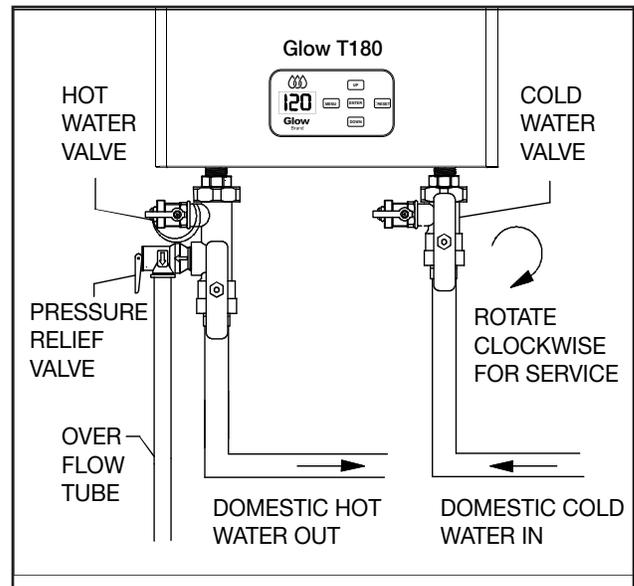

Figure 3.16 - Optional Service Kit
**!** An optional Tankless Water Heater Isolation Valve Kit (fig. 3.16) is intended for installation onto tankless water heater cold inlet and hot outlet connections. Each assembly features union connections, full-port, positive-shutoff ball valve design and integral drain valves with capped hose thread connections. They are available with 3/4" FIP cold inlet and hot outlet connections.